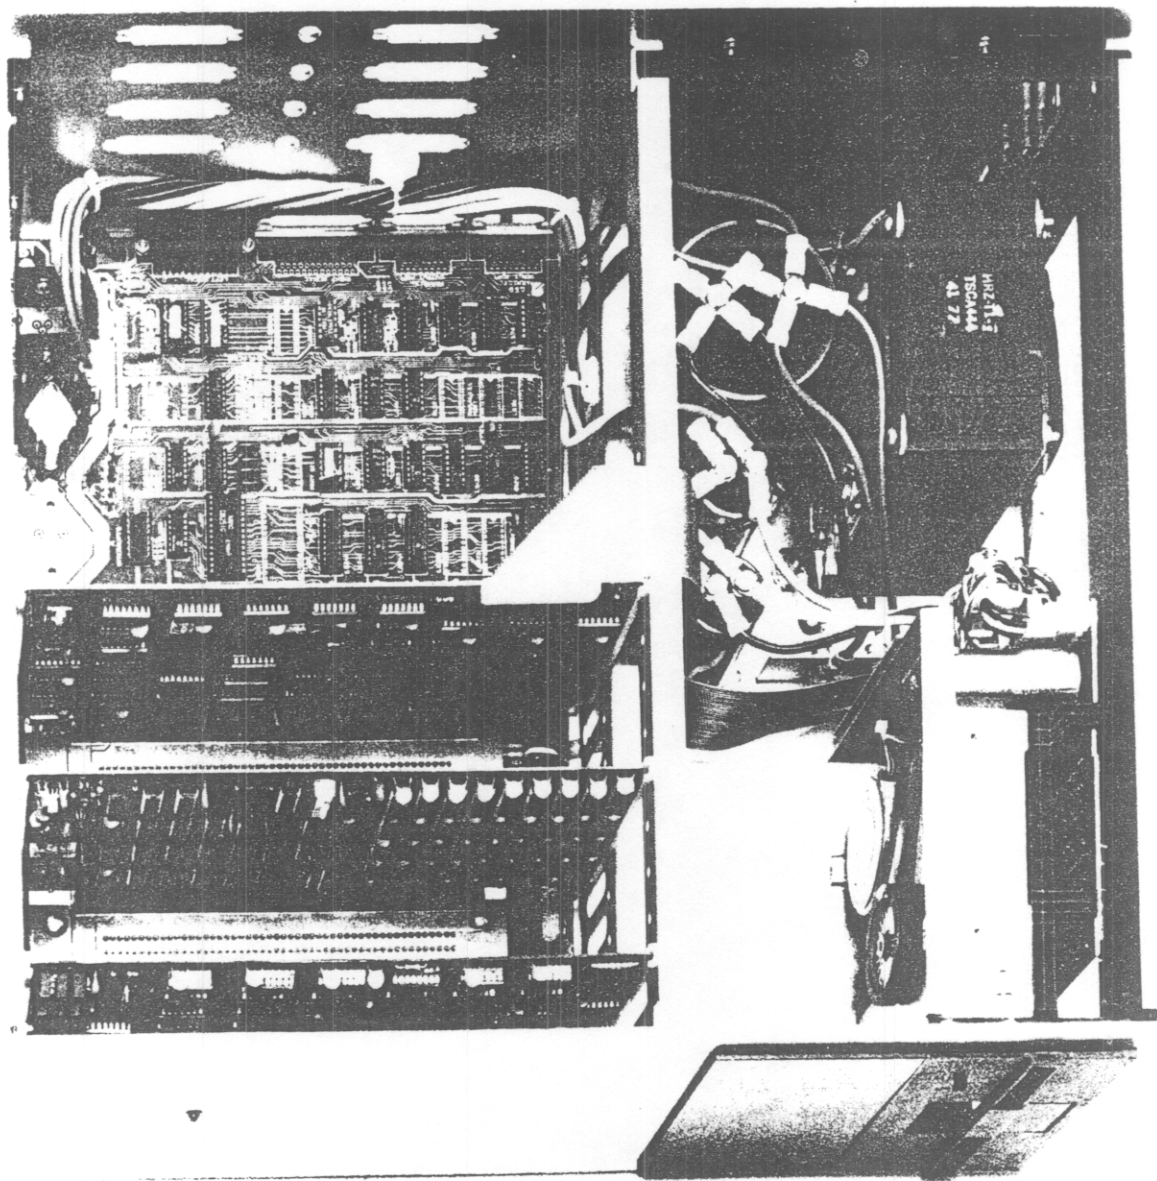

Figure 1C. Top View of Assembled HORIZON-1.
- C15. Attach the two adhesive backed cable-tie mounts to the back panel and chassis partition piece as shown in figure 1C. Orient them so that the cable ties can mount vertically.
- C17. Now twist the seven wires into a neat bundle and route as shown in figure 1C. Tie the bundle with four plastic cable ties as shown. Two of the cable ties should be threaded through the cable tie mounting brackets. Leave the cable ties loose for now.